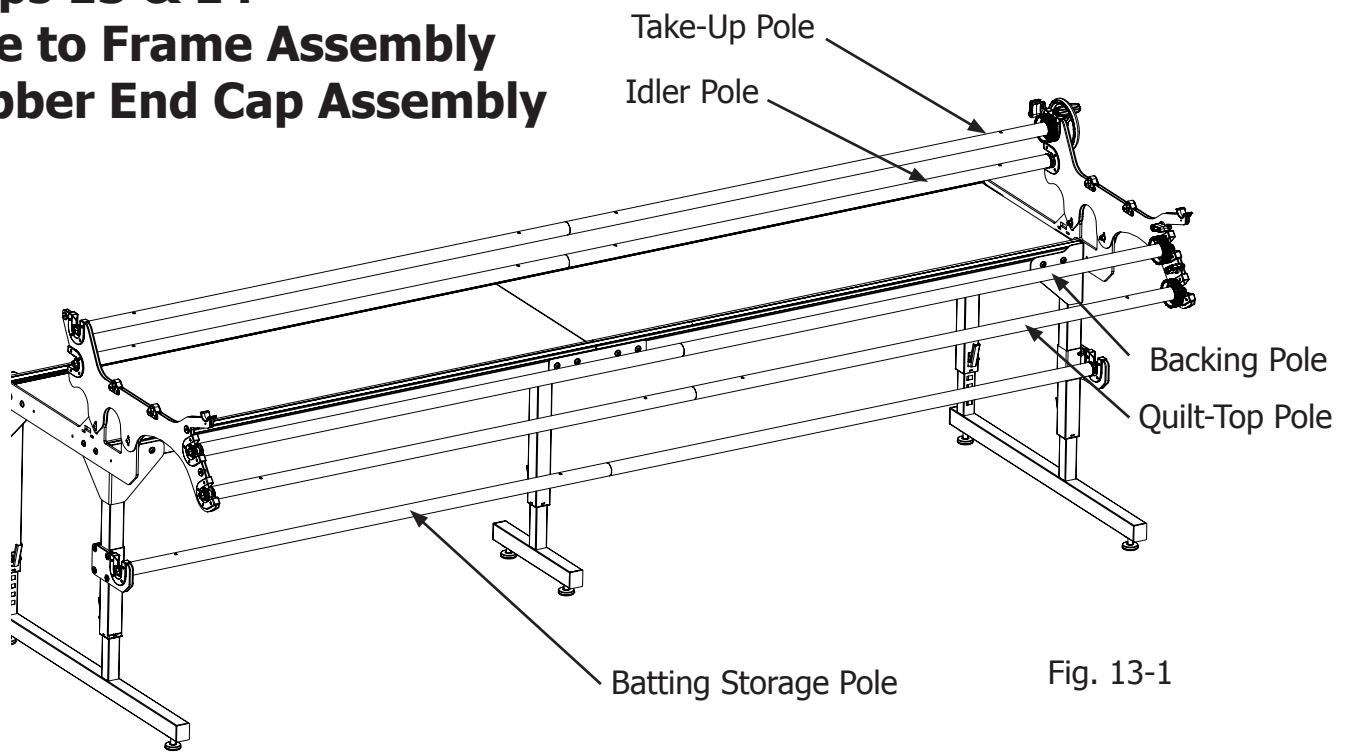

Fig. 13-1
- (1) take-up pole
**13-1:** Place the poles on the frame as shown in **Fig. 13-1**. The poles will snap past the plastic fingers, which are shown in **Detail 8-2a**.